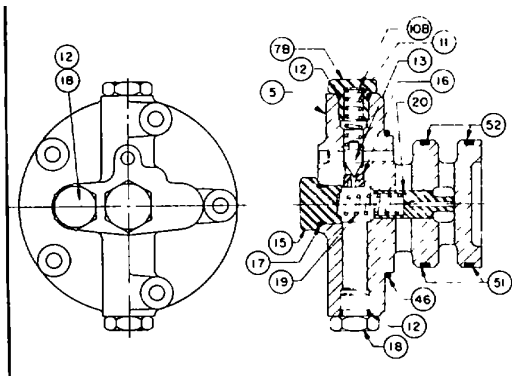

Figure 187.
Units no longer in production may have a nonadjustable high pressure pilot valve spring seat (7B) (See Fig 187). Remove spring seat (7B) and shim(s) (10), O-ring (12), spring (11), and valve pilot (13) and proceed to Step 5.